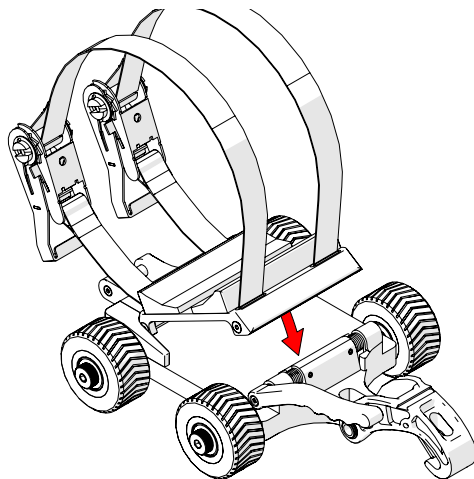

Fig. 43 - Angle the mounting plate and press into place
1. Angle the mounting plate into the source cart base (Fig. 43).